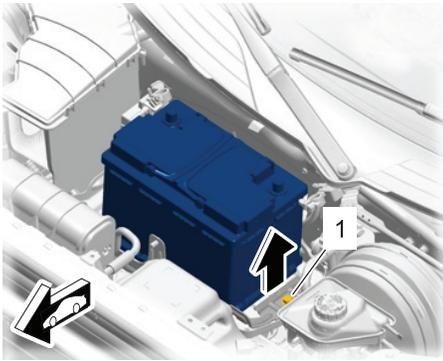

Fig. 7 Battery rail removal
13. Remove screw (1) on rail and remove rail, **Fig. 7**.